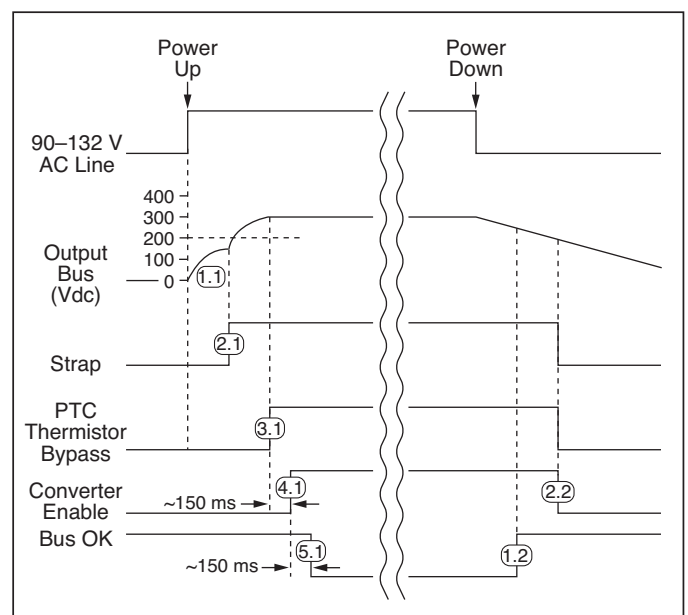

Figure 9 — Timing diagram: power up/down sequence
**Power-Up Sequence.** (See Fig. 9):
**Power-Down Sequence.** (See Fig. 9). When input power is turned off or fails, the following sequence occurs as the bus voltage decays: